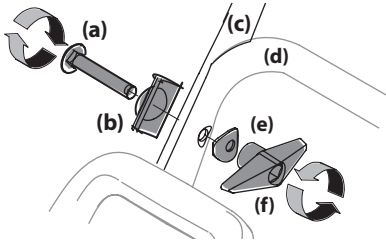

Figure 2-9
11. Insert a carriage screw (a) from the outside through a handle tab (b), the upper (c) and lower handles (d), a saddle washer (e) and into the wing knob (f). Repeat on the other side. Tighten the wing knobs (f) on each side of the handle. Refer to Figure 2-9.